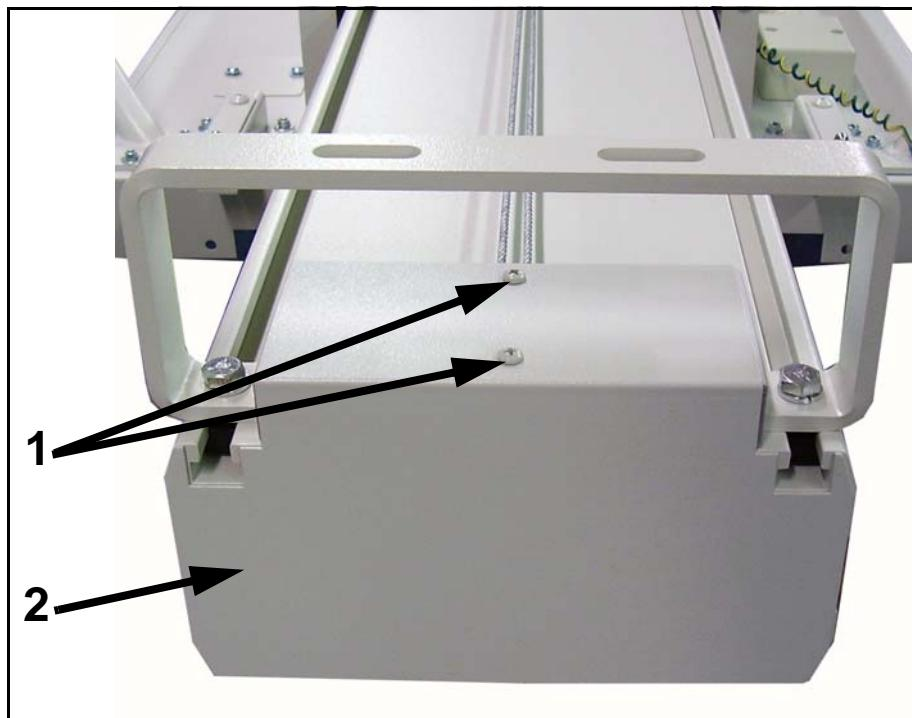

Figure 6-6. Top Cover
- 5 Unscrew top cover screws (1 in Figure 6-6) and remove top cover (2).